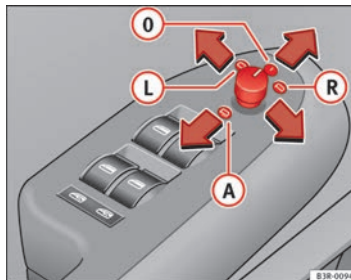

Fig. 103 Detailed view of the armrest: Adjuster knob
- Turn the adjuster knob to position ⇒ Fig. 103 **L** (left exterior mirror) or position **R** (right exterior mirror).
When reverse gear is engaged, the mirror surface tilts slightly downwards, provided the mirror control is switched to the exterior mirror on the passenger side (knob in position **(R)** ⇒ Fig. 103). This provides a better view of the kerb when parking.